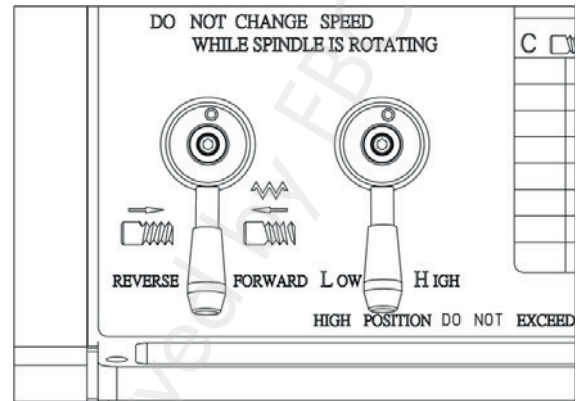

Fig. 24 Gearbox range lever & Feed direction lever in neutral position
4. Move the gearbox range lever to neutral range. (Figure 24)
5. Move the feed direction forward / reverse lever to the neutral position. (Figure 24)